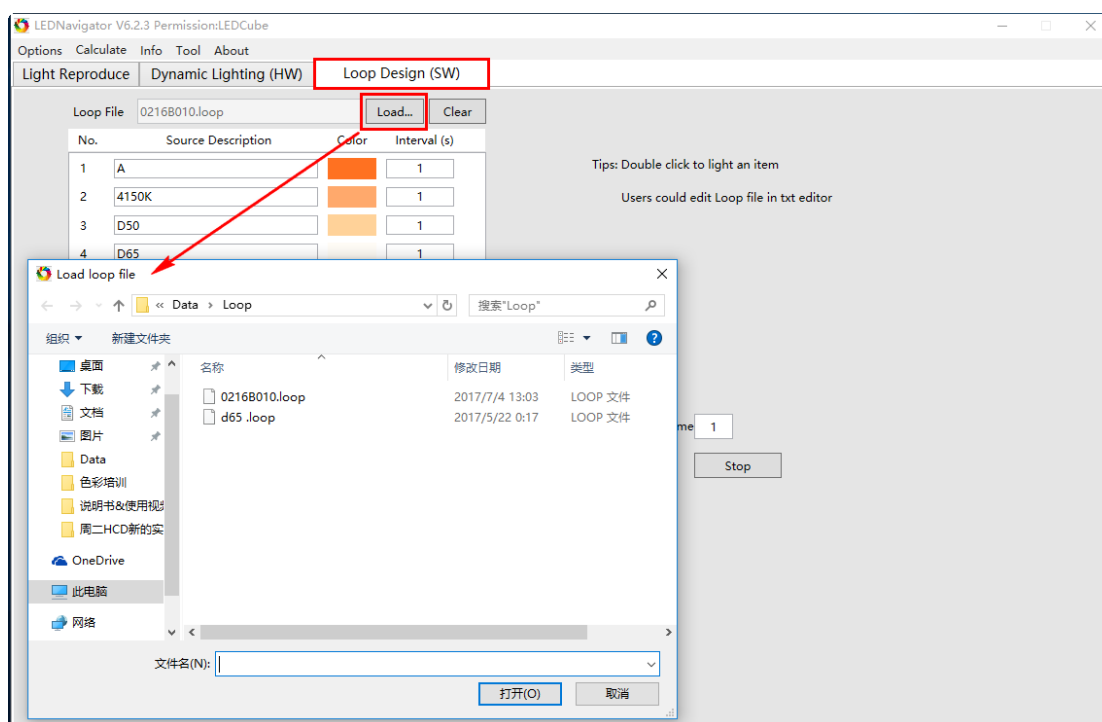

Fig. 4.15 Load in a history loop file
4.9 Loop Design (SW)
The saved light sources via *Save to SW...* in section 4.6 is shown in the *Loop Design (SW)* page. In the *Loop Design (SW)*, users could save unlimited light sources into software. Press *Load...* button to open a history Loop file, as shown in Fig. 4.15. Press *Clear* to clear previously loaded loop file.